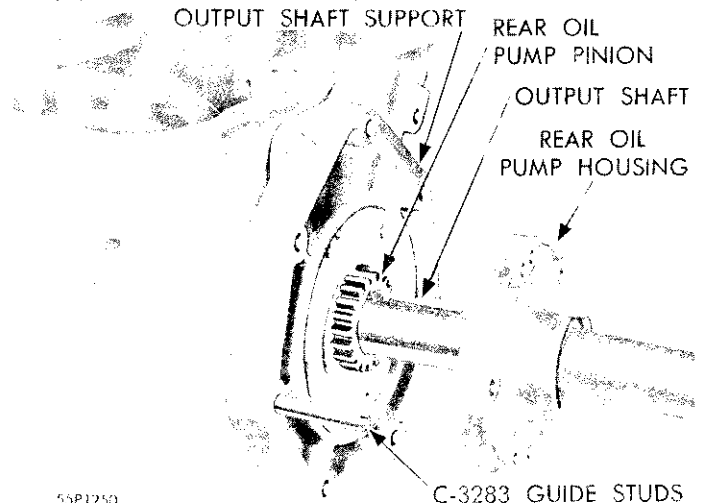

Fig. 17—Removal and Installation of Rear Oil Pump Housing
(1) Remove the five rear oil pump housing to output shaft support screws and lockwashers. Remove rear oil pump housing, as shown in Figure 17. Use dye to mark front side of gear in housing. **Do not use scribe.** Inspect machined surfaces for nicks and burrs, the oil pump gear and housing for scoring or pitting and pump housing plugs for leaks.
(2) Remove rear oil pump pinion from output shaft and mark front side with dye.